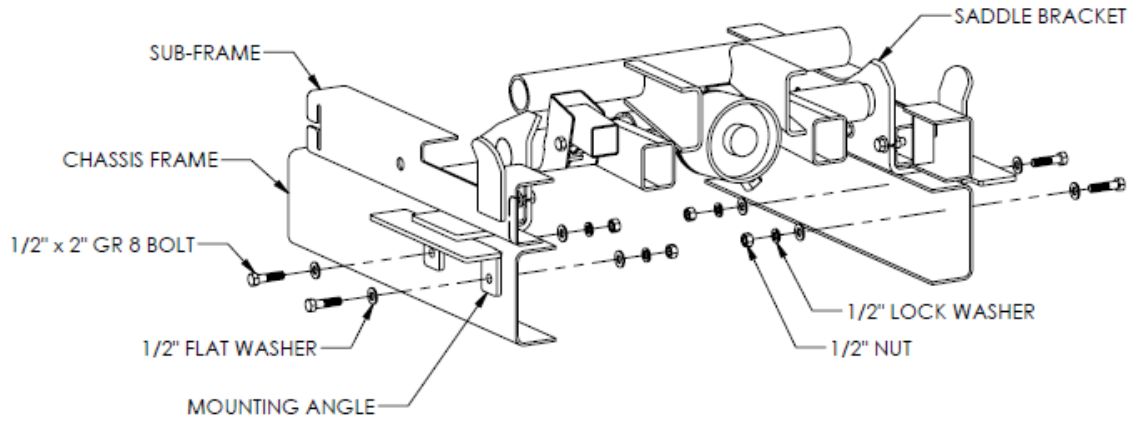

FIGURE 5
4. Position a mounting angle under each saddle flat located on each side of the sub-frame. Secure each mounting angle to the truck frame by drilling two  $17/32$ " Dia. holes and bolting the mounting angles to the truck frame using two  $1/2$ " x 2" GR 8 bolts, four flat washers, two lock washers and two nuts. (Figure 5).